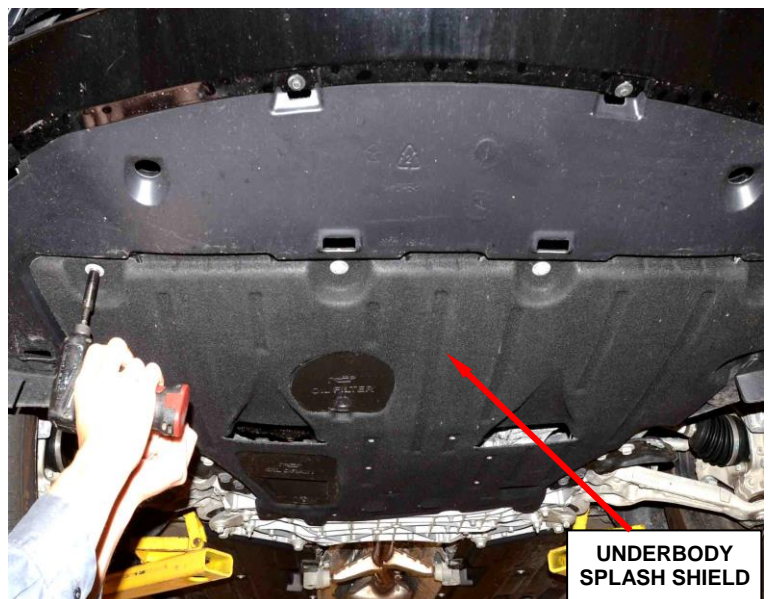

Figure 22 – Underbody Splash Shield
19. Remove and save the underbody splash shield (Figure 22).